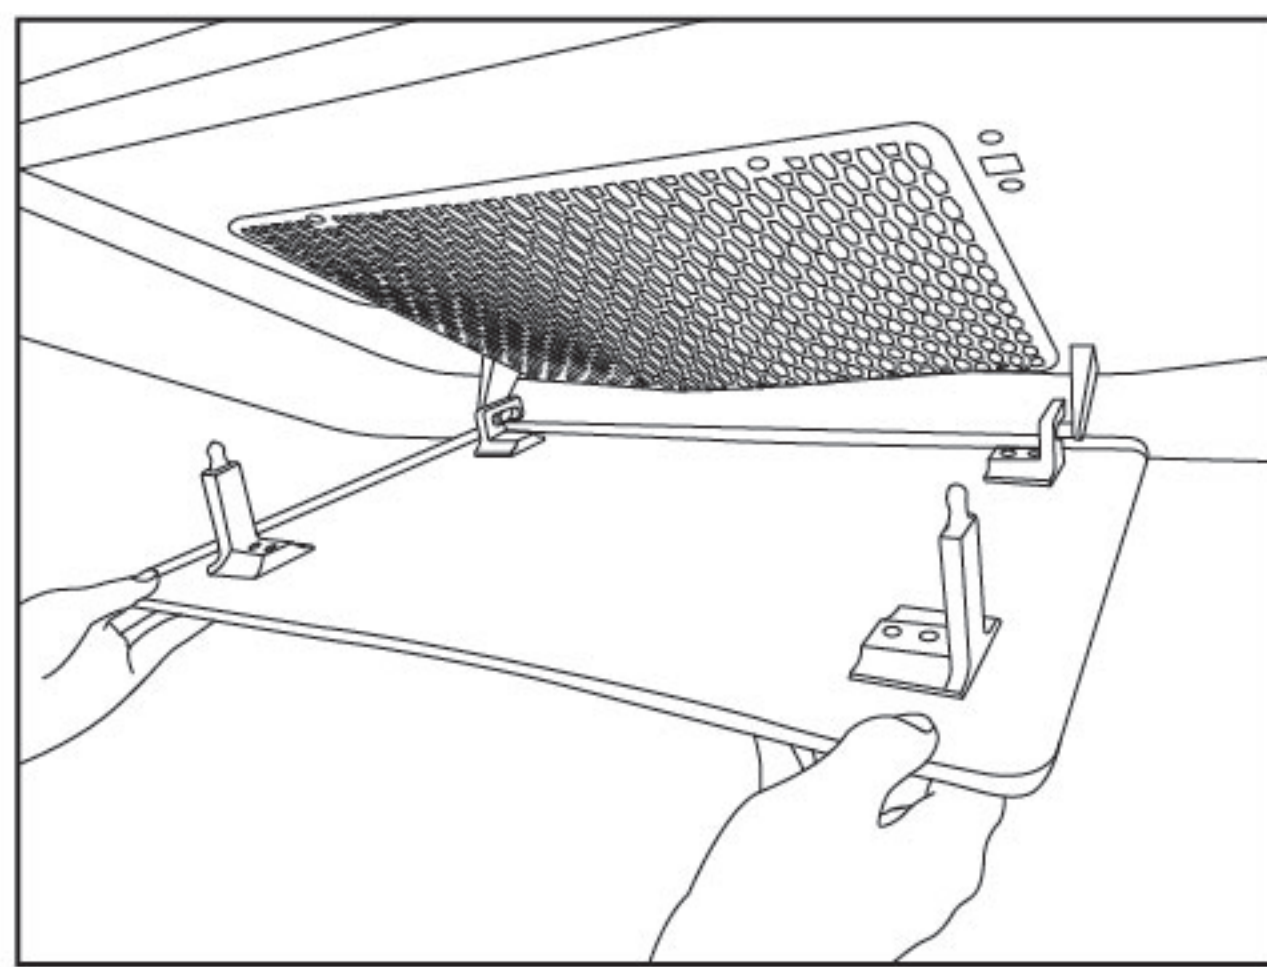
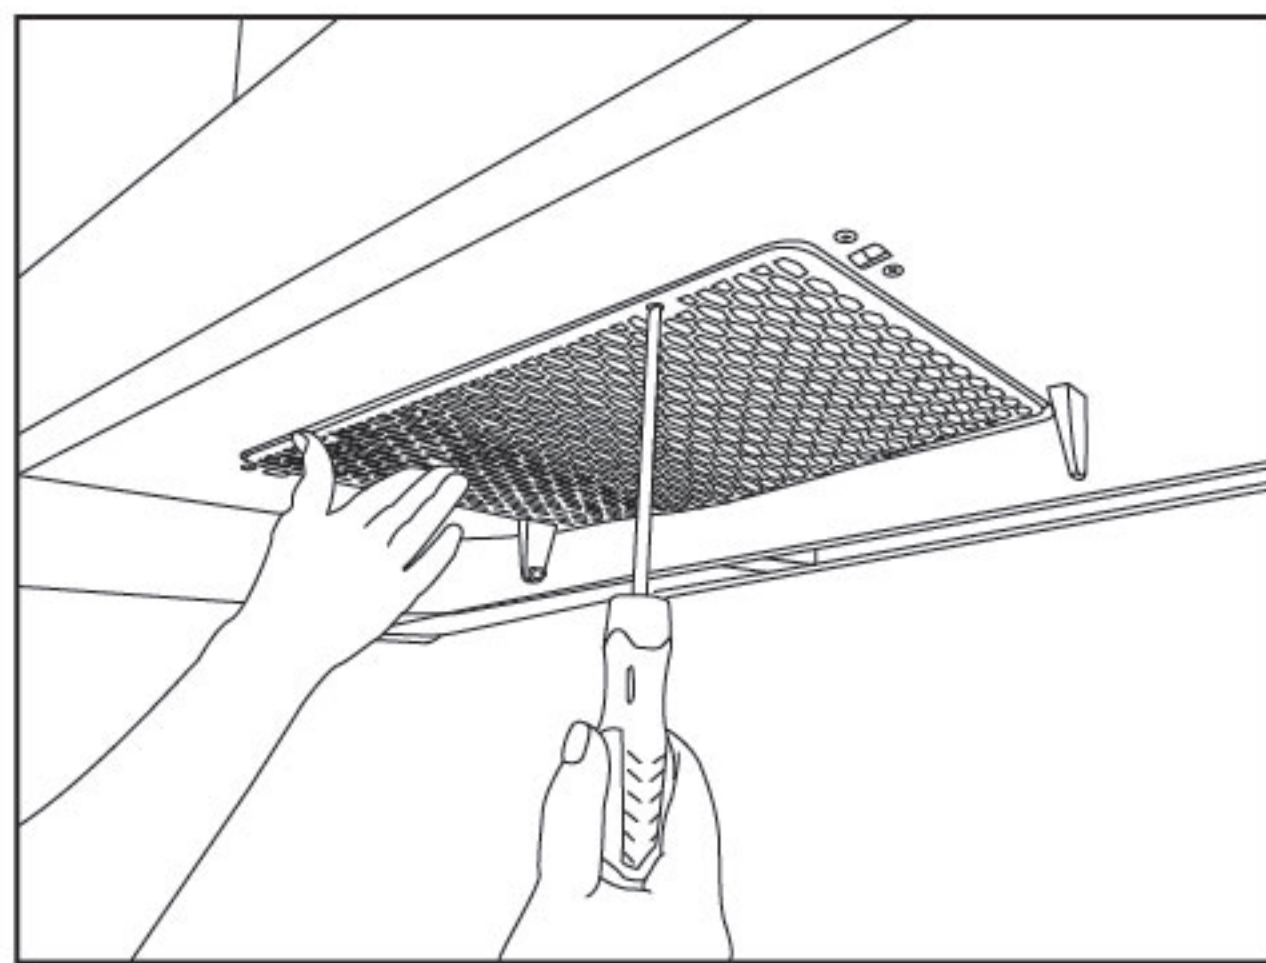
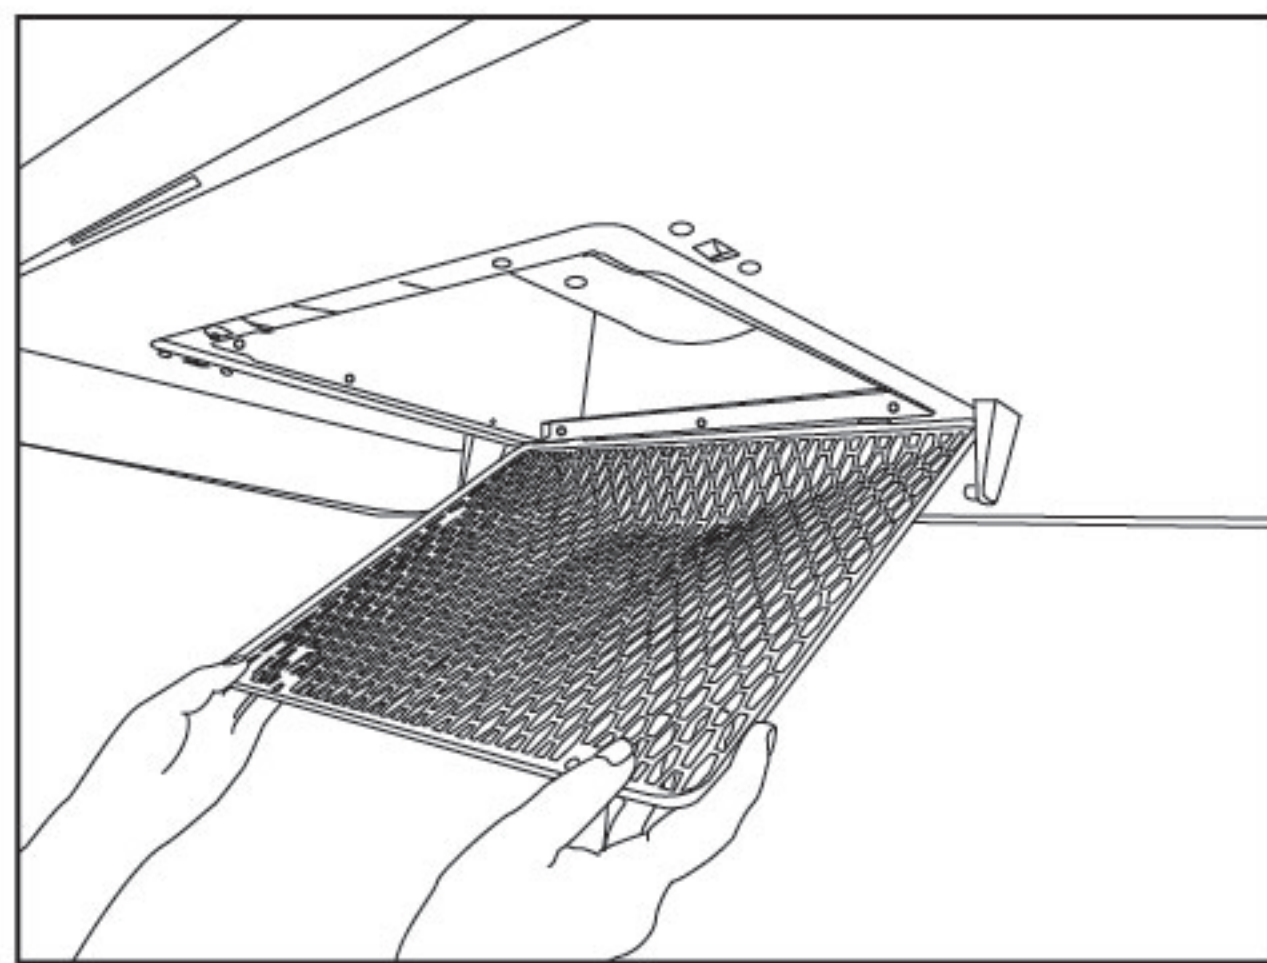

fig 2
fig 3
fig 4
- 2. First, grasp the front edge of the wing plate with both hands, turn it down to disengage the wing plate locking tab, and then turn it down at a certain angle, take down the wing plate (Figure 2), then hold the air intake hood with left hand, loose the two screws fixing the air intake hook with right hand by using cross-head screwdriver (Figure 3), take down the air intake hood (Figure 4), soak the oil cup, wing plate and air intake hood in warm water containing neutral detergent, and clean them with soft brush;